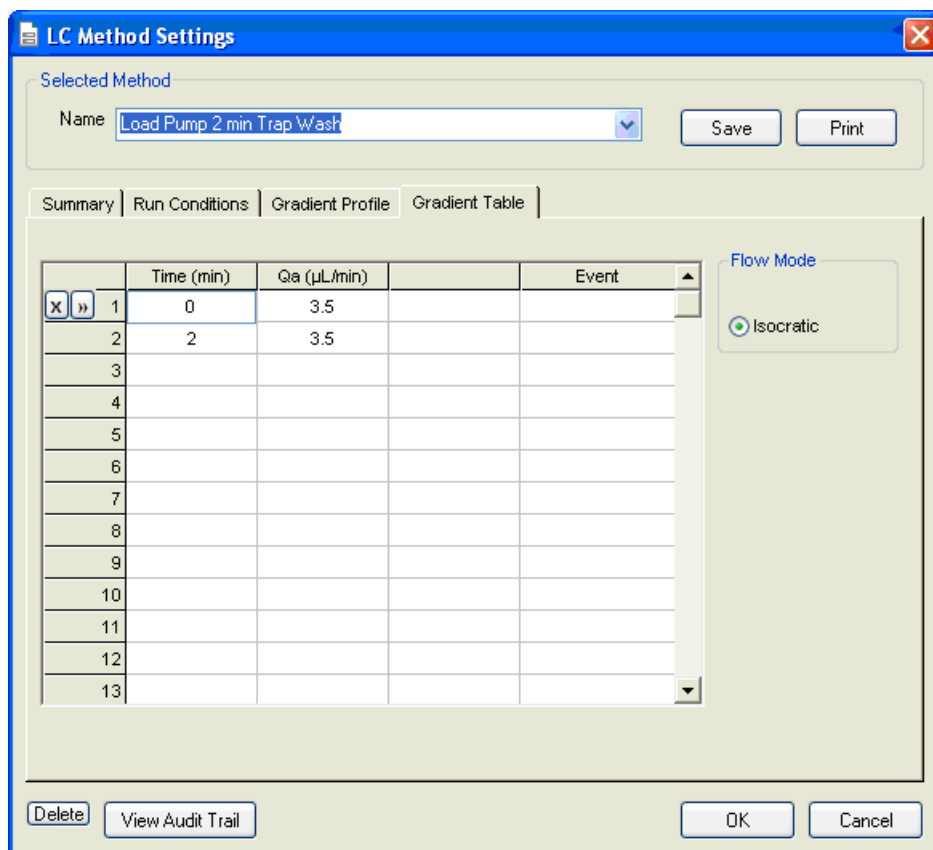

Figure 3-3 LC Method Settings dialog—Gradient Table tab
- On the **Gradient Table** tab, revise the method for the loading pump (the loading pump will be the pump with the microflow module), as shown in Figure 3-3.